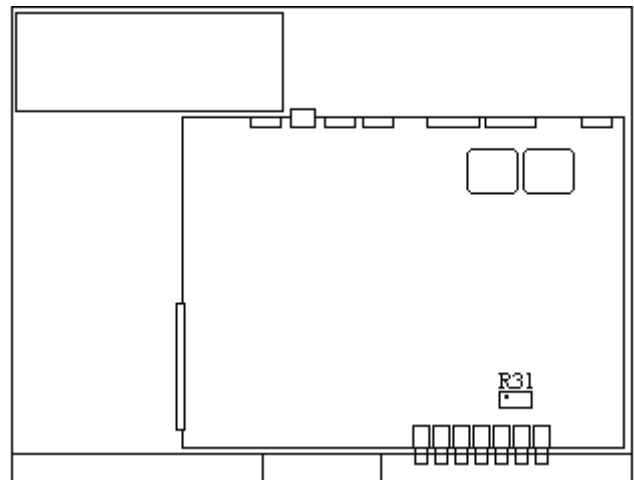

Figure 18 - GETC Shelf
1. The High Speed Data Deviation is set using R31 on the GETC Logic Board (see Figure 18). When the GETC is in this test mode, audio is routed from the High Speed Data input to the station. No other signals (receiver, line in) will be transmitted. The signal from the GETC to the transmitter is 9600 BAUD Pseudo - Random Data. Measure the transmitter deviation and adjust R31 on the GETC Board for 3.0 kHz (2.4 kHz NPSPAC) ± 100 Hz deviation.